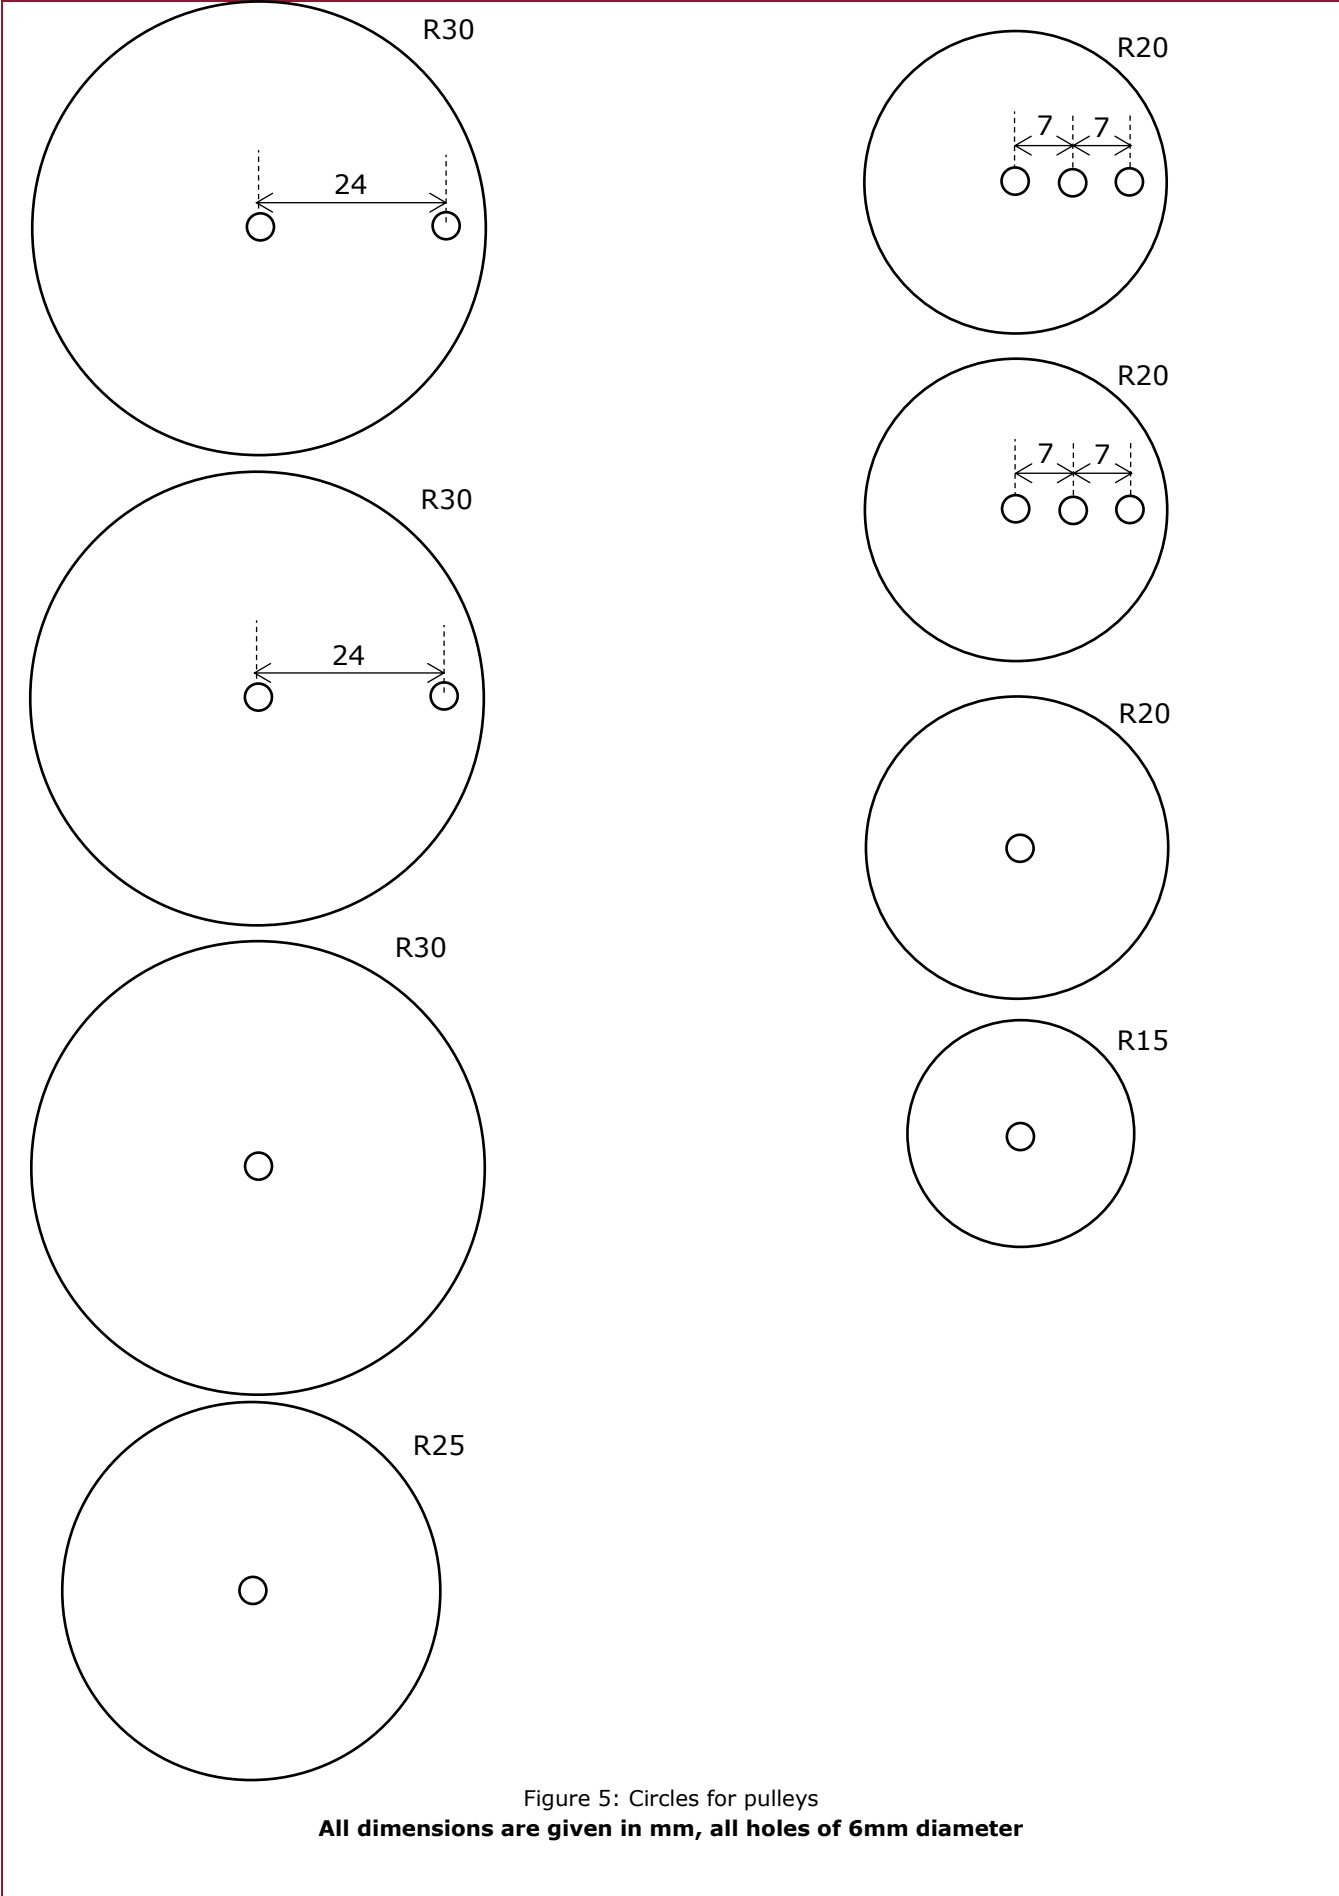

Figure 5: Circles for pulleys
6. Circles cut out of 3 mm material (plywood or MDF) drilled in the centre only as per Figure 5 (the rest of the holes are to be drilled by students):